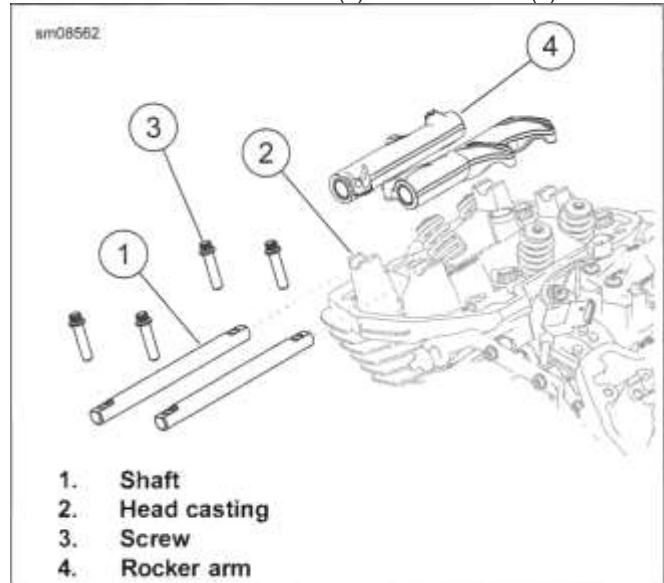

Figure 4-23. Remove Rocker Arms
- b. See Figure 4-23. Alternately loosen screws (3) until screws can be turned by hand.
- d. Remove rocker shaft (1) and rocker arm (4).
- b. See Figure 4-23. Install rocker arm (4) and rocker shaft (1).
- d. Install screws (3).